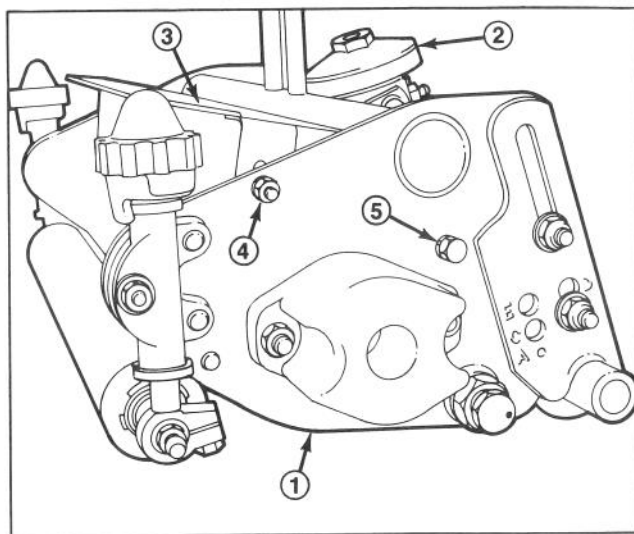

Figure 1
1. Remove grass shield assembly. On all units, save the (2) hex head capscrews, (4) flatwashers and (2) locknuts for reuse (Fig. 1, 2). Discard the two pivot screws and lockwashers on SPA units (Fig. 1).